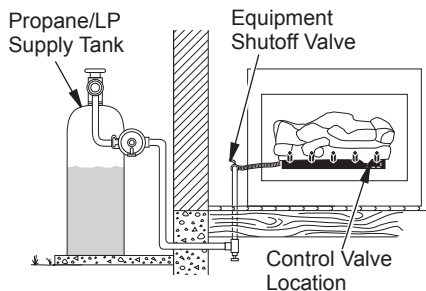
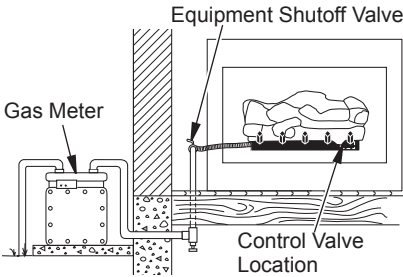

Figure 16 - Checking Gas Joints (Propane/LP Only)
Figure 17 - Checking Gas Joints (Natural Gas Only)
3. Check all joints from gas meter to equipment shutoff valve for natural gas or propane/LP supply to equipment shutoff valve for propane/LP (see Figure 16 or Figure 17, page 16). Apply noncorrosive leak detection fluid to all joints. Bubbles forming show a leak.
4. Check all joints from gas meter to equipment shutoff valve for natural gas or propane/LP supply to equipment shutoff valve for propane/LP (see Figure 16, page 15 or Figure 17). Apply noncorrosive leak detection fluid to all joints. Bubbles forming show a leak.